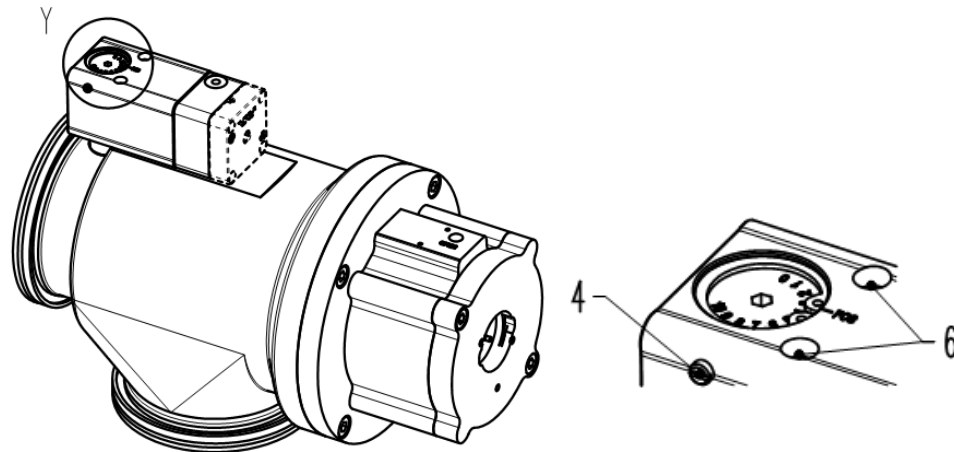

Figure 6-3
1. Detach the soft-pump valve from the main valve by removing the 2 screws (6).
2. Remove O-rings (7) and (9) and discard them. The item number in brackets refers to «Figure 6-3».